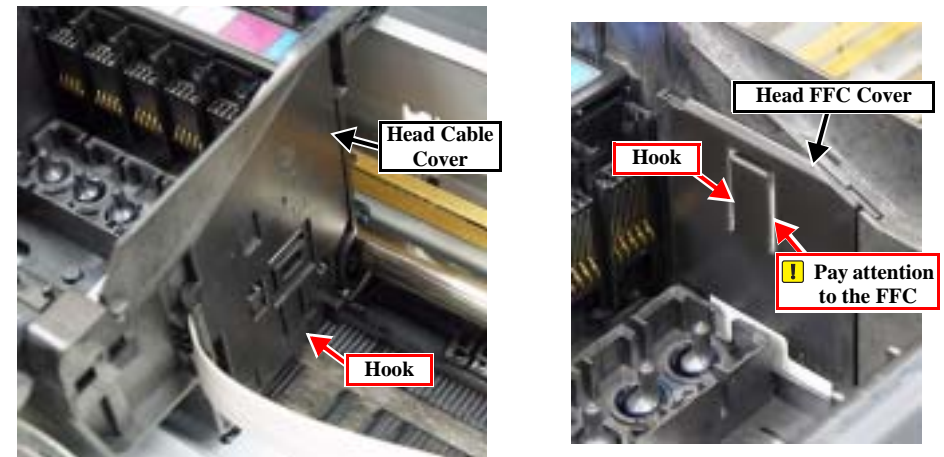

Figure 4-30. Removing the FFC Cover
6. At the right side of the Carriage Assy, release the hook of the Head Cable Cover, and remove the Head Cable Cover by sliding it downward. (Fig. 4-30)